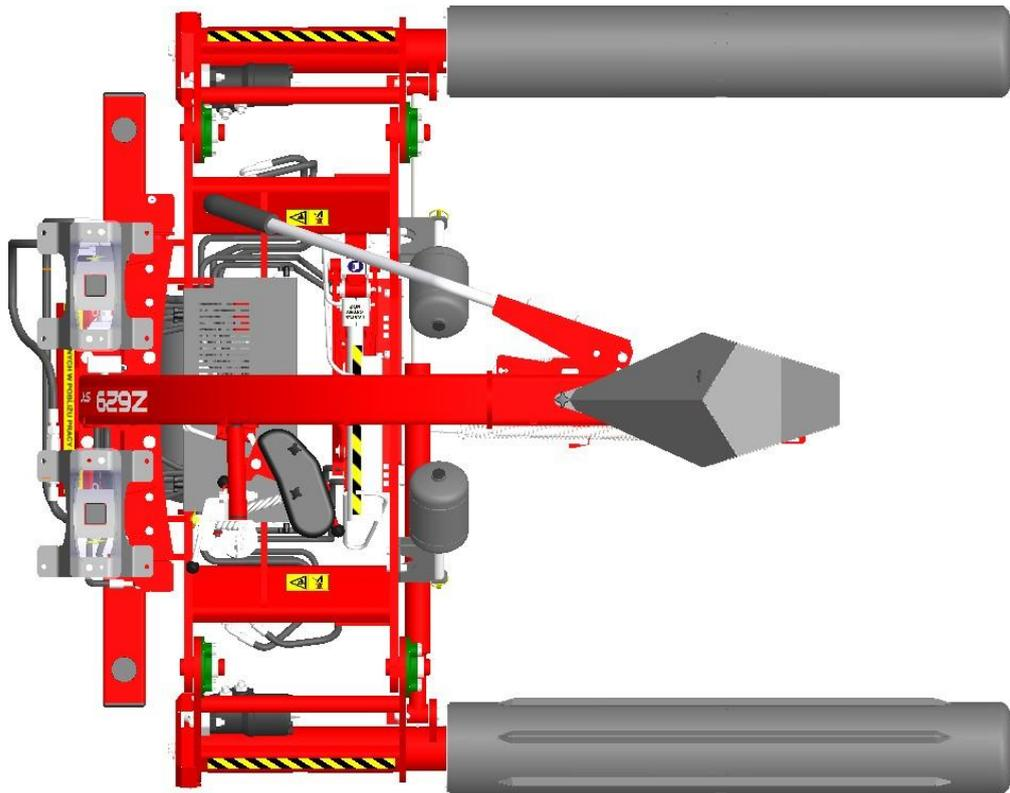

Figure 8. The wrapper in the initial position (view from the top)
- Make some revolutions with the top wrapping arm with slow and fast revolution speed. Stop the arm in the initial position (Fig. 8).
- perform automatic wrapping, the upper wrapping arm should turn clockwise looking from the top, move slowly and smoothly; after performing the programmed number of revolutions, the arm should stop in the initial position (Fig. 8),